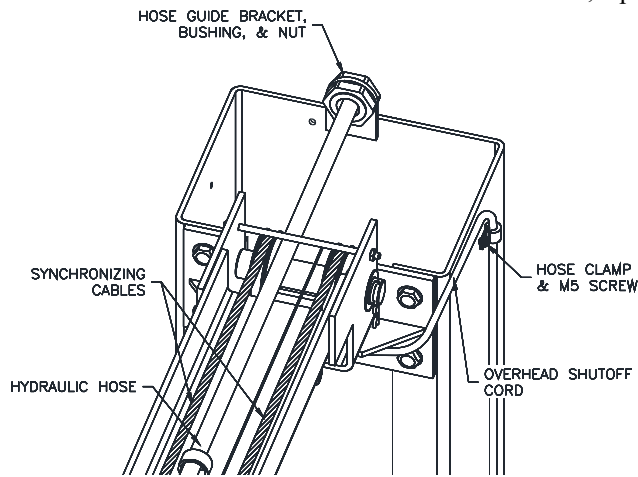

Fig. 8 – Power Side Routing
- 28) Hoses, cables, and limit switch cord should be routed as shown in **Fig 8** for power side column extension. Route lines for the idler side using the hose guide bracket and idler side pulley bracket.